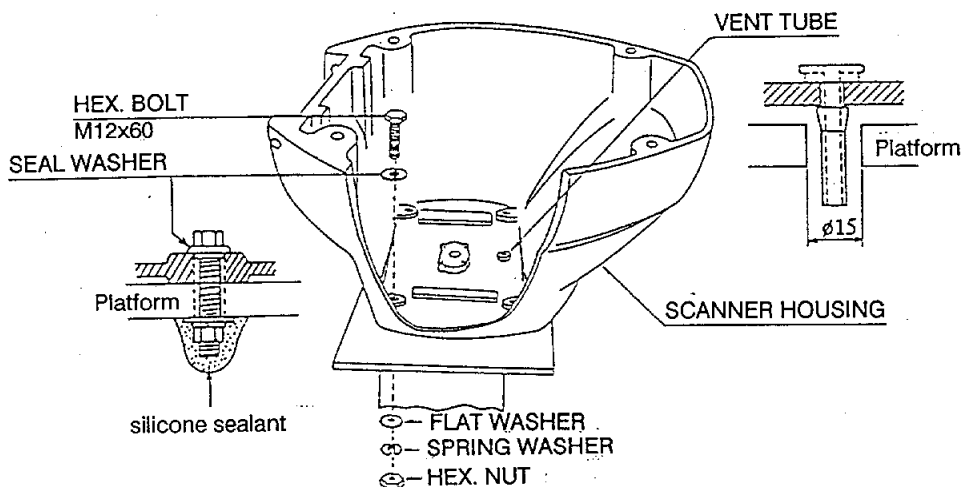

Figure 6-2 Mounting the Scanner Housing
4. Insert the M12x60 hex. bolts with the seal washers from inside the scanner housing so that they will not touch the transceiver module. Before securing housing with washers and nuts coat them with silicone sealant. Then, coat exposed parts of nuts and washers as shown in Figure 6-2.
2. Be certain to install the seal washer with the larger diameter under the head of the bolt as shown below in Figure 6-2.